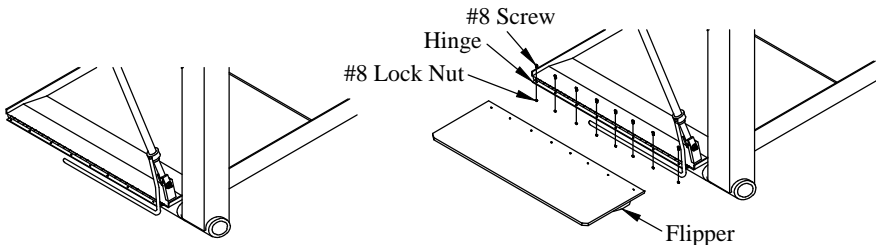

Figure 27: Flipper arm assembled.
11. **Reinstall** the self-closing rod and 3/8" x 1-1/4" bolt weldment (Figure 27).